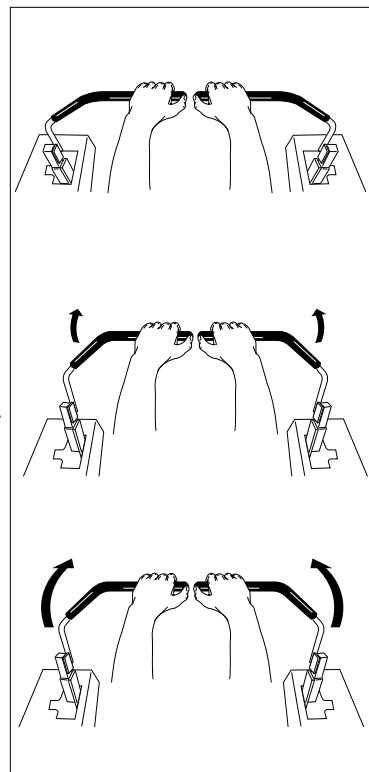

Figure 3. Move Control Levers Gradually
*The BEST method of handling the ground speed control levers is in three steps — as shown in Figure 3.*